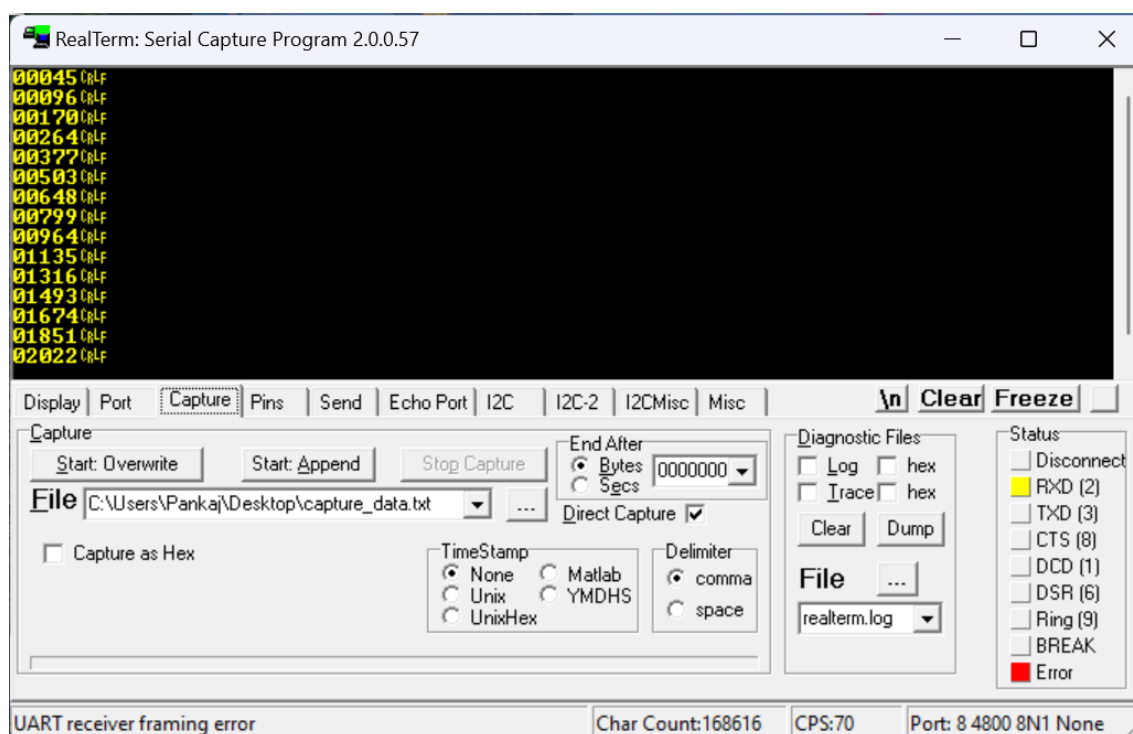

Figure 4: RealTerm: Serial/TCP Terminal
2. Capture the values sent to the computer via UART using real term serial capture. Refer to Figure 4 to capture the values and save them in a text file. "Start Overwrite" will start saving the values printed on RealTerm to the text file (path specified). "Stop Capture" will stop saving the values.